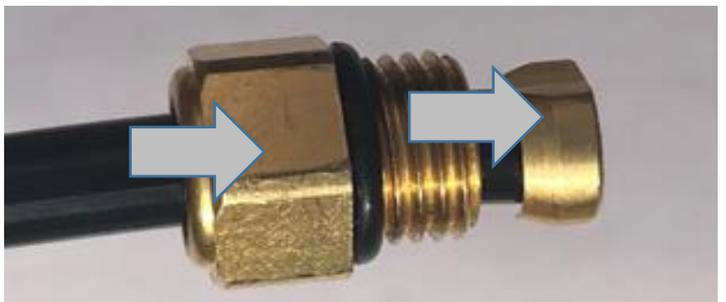

fig.6
9. Remove the old collet and air fitting from the end of the air line, discard both the collet and air fitting. (fig.6)